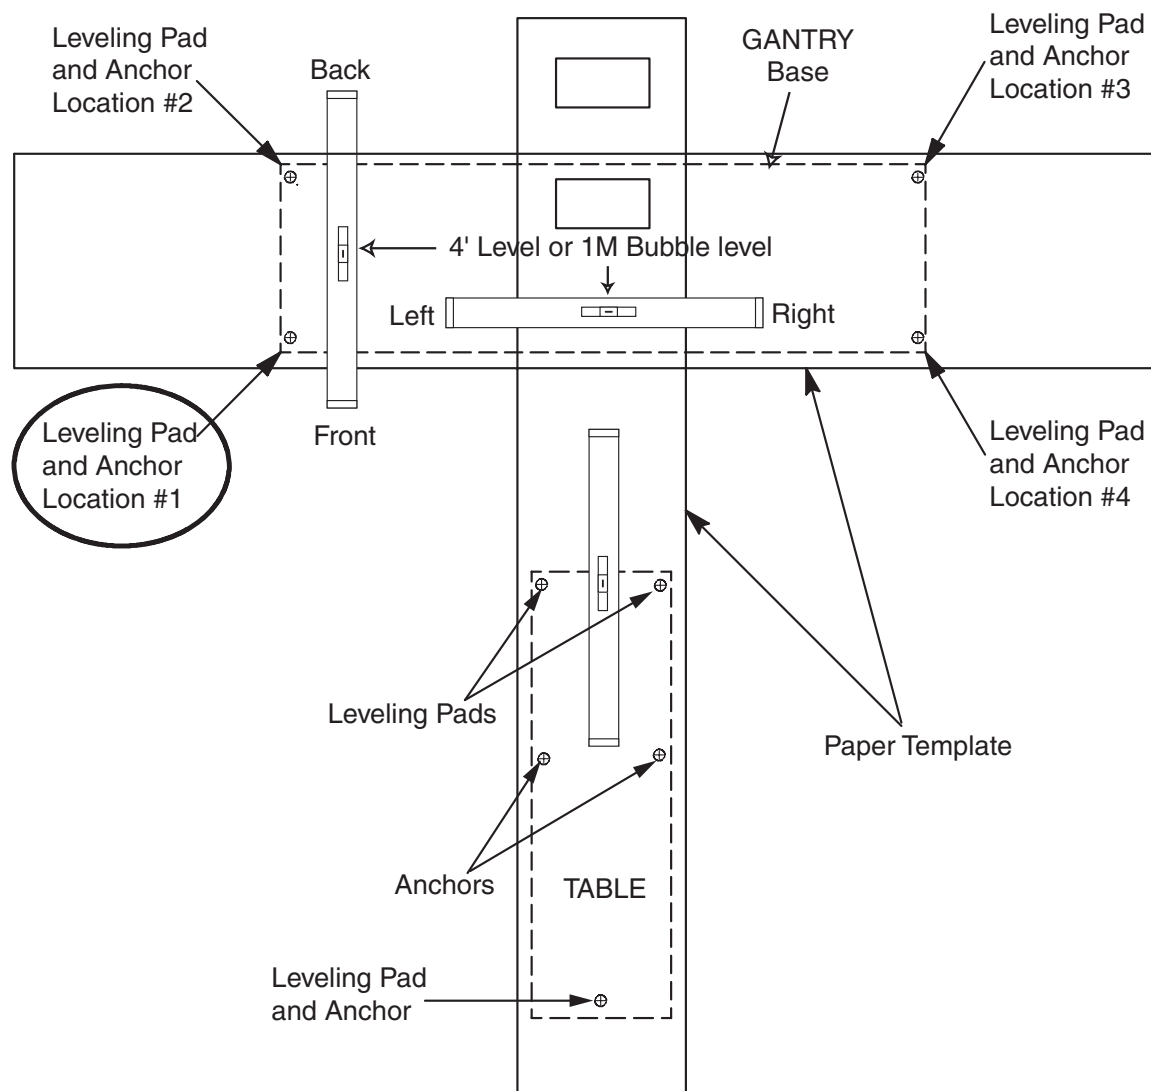

Figure 2-1 Hole Locations
- 1.) Lay out the two (2) floor templates.
- 5.) Check the level of the floor (See Figure 2-1) across the templates.
This should be measured on the template over the table/gantry area, as shown in Figure 2-1, above.